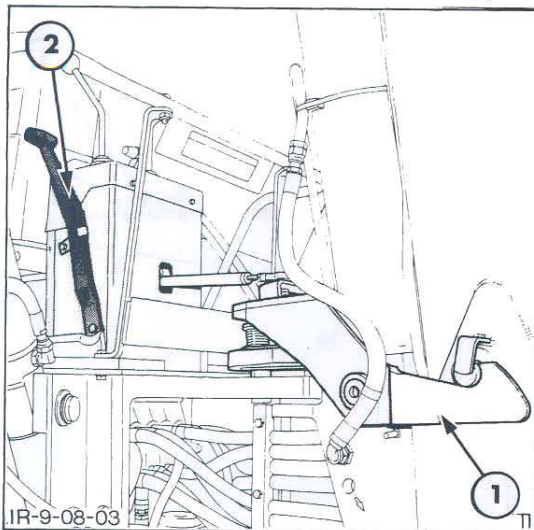

Figure 20
- Ensure the 555C and 655C centre pivot transport lock is correctly adjusted. With the boom fully raised and the locking lever on the control console in the locked position, the locking hook must contact the engagement pin on the boom, Figure 20. Adjust the lever to hook connecting tube to ensure correct engagement.